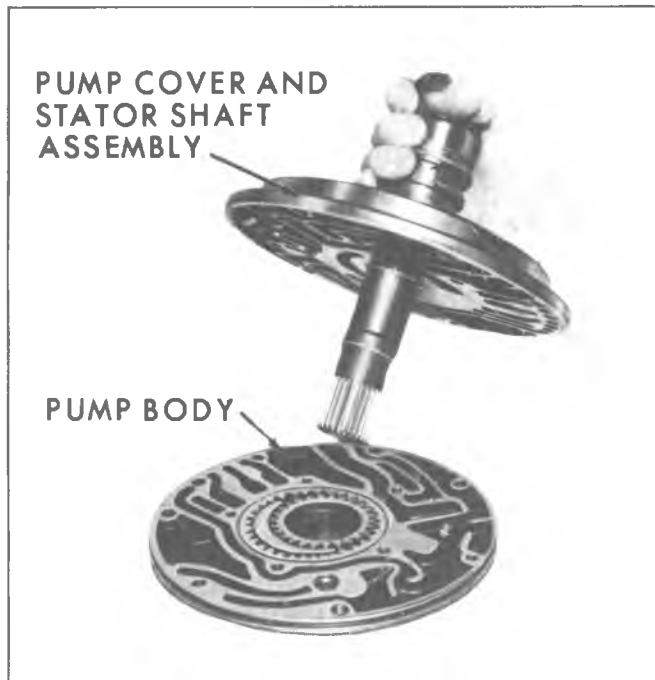

Fig. 7A-62B--Separating Pump Cover From Pump Body
7. Remove pump cover and stator shaft assembly from pump body (fig. 7A-62B).